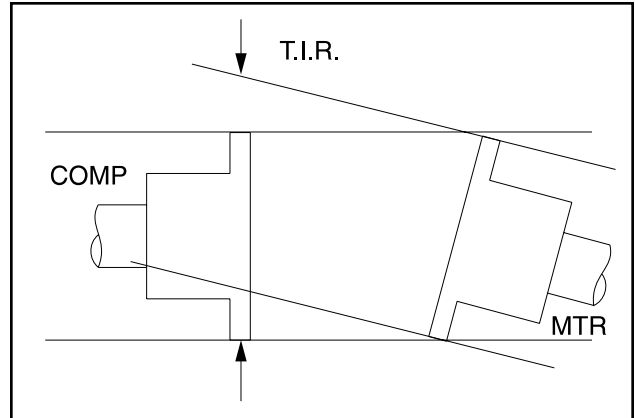
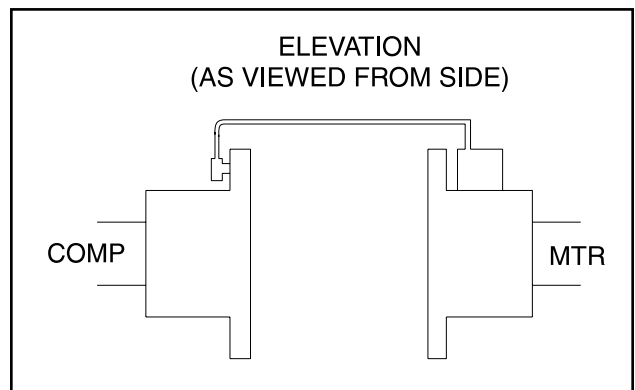

Figure 1 - Angular Misalignment
Figure 2 - Dial Indicator Attached (At 12 O'clock)
1. To check angular alignment, as shown in Figure 1, attach dial indicator rigidly to the motor hub. Move indicator stem so it is in contact with the outside face of compressor hub, as shown in Figure 2.
3. Set the dial indicator at zero when viewed at the 12 o'clock position, as shown in Figure 2.